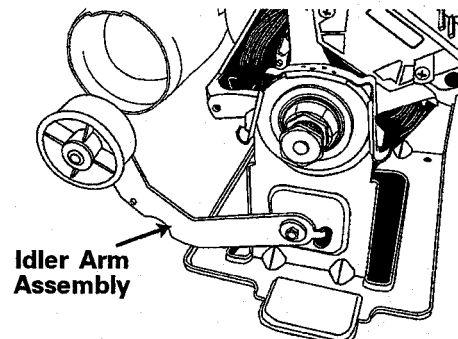

Figure 2-50
5. Unhook idler spring from the base frame and remove screw securing the assembly to motor support bracket, *see Figure 2-50.*